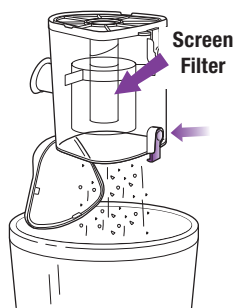

Fig. 20
- If needed, turn the dust cup upside down over the trash receptacle and press the top door release button. **(Fig. 20)** Tap gently to remove contents.